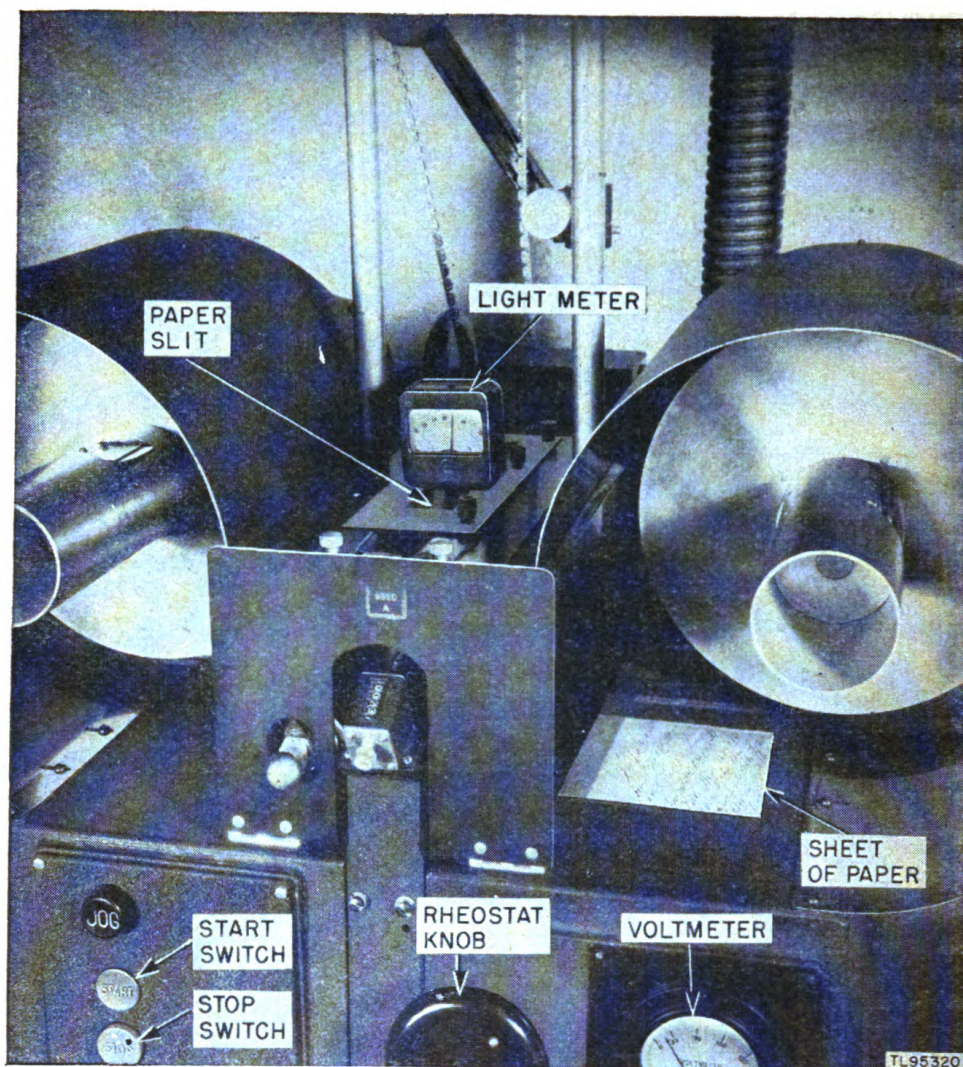

Figure 7. Adjusting running voltage on Enlarger PH-285.
8. Regulating Voltage on Enlarger PH-285 (fig. 7)
- a. Set the light meter on top of the paper slit as shown in figure 7.